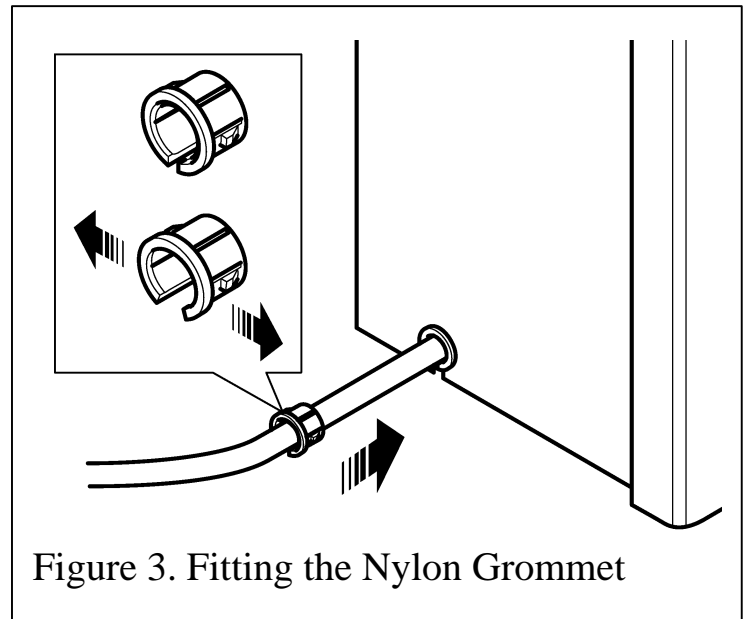

Figure 3. Fitting the Nylon Grommet
3. There is a supply cable slot on both sides of the spacer frame. It is located at the base. Decide which side to pass the supply cable through. The nylon grommet supplied has a slot along its length. Fit the grommet to the mains cable with the flange edge positioned away from the fire (See figure 3).
5. Slide the nylon grommet along the supply cable towards the heater. When the grommet reaches the slot, push it into the slot up to its flange (See figure 3).